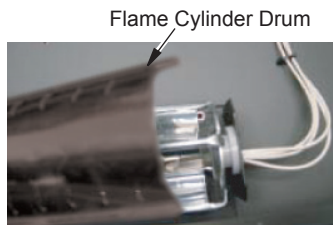

Figure 8 - Flame Generation Cylinder Drum
3. Locate flame generation cylindrical drum, figure 8.